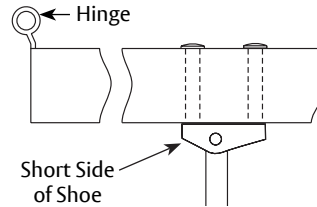

Figure 18 View from ceiling looking downward
1. Using previously prepared holes in door, install two (2) 1/4-20 x 1-5/8" screws through shoe and into sex bolts. (Figure 18)